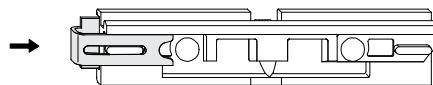

Fig. 3
- A Clip spring (1) into pre-assembly position (DIN right/left) onto top hinge block (2) (Fig. 3).